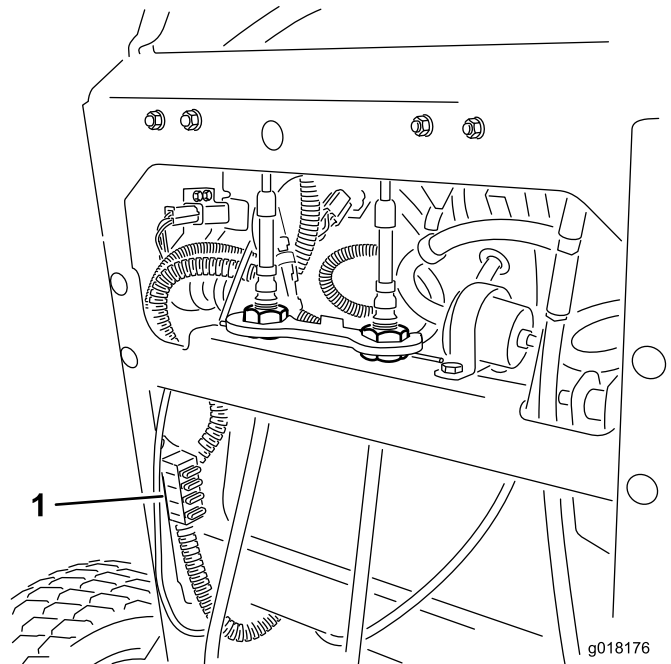

Figure 52
2. Pull out on the fuse to remove or replace it (Figure 52).
Note: Ensure that the correct size fuse is installed Figure 52.